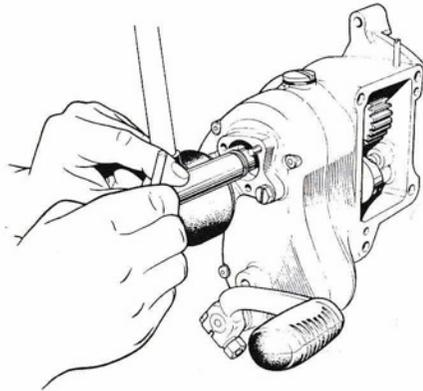

Fig. 37 Assembling Spiralox mainshaft circlip with service tool 0710069.
- 4 Fit the Spiralox circlip to the mainshaft. When fitting a circlip this must have the correct part number and be wound left hand. Unscrew the handle and sleeve from the body of the tool (see below), offer the circlip over the tapered end of the body and then reassemble the tool. Hold the recessed end of the body against the mainshaft and, pushing with the tool sleeve, slide the circlip over tool body and onto the mainshaft until it drops properly into position in the circlip groove see Fig. 37. The circlip should be checked finally to ensure that it has entered the groove through 360°.
- 14 Fit the Spiralox circlip using service tool 0710069. It may be necessary to apply pressure to the clutch end of the mainshaft by pressing the clutch spring plate through the clutch inspection window whilst the circlip is located. When fitting a circlip this must have the correct part number. Unscrew the handle and sleeve from the body of the tool, offer the circlip over the tapered end of the body and then reassemble the tool. Hold the recessed end of the body against the mainshaft and, pushing with the tool sleeve, slide the circlip over tool body onto the mainshaft until it drops properly into position in the circlip groove. (See Fig. 37.) The circlip should be checked finally to ensure that it has entered the groove through 360°.